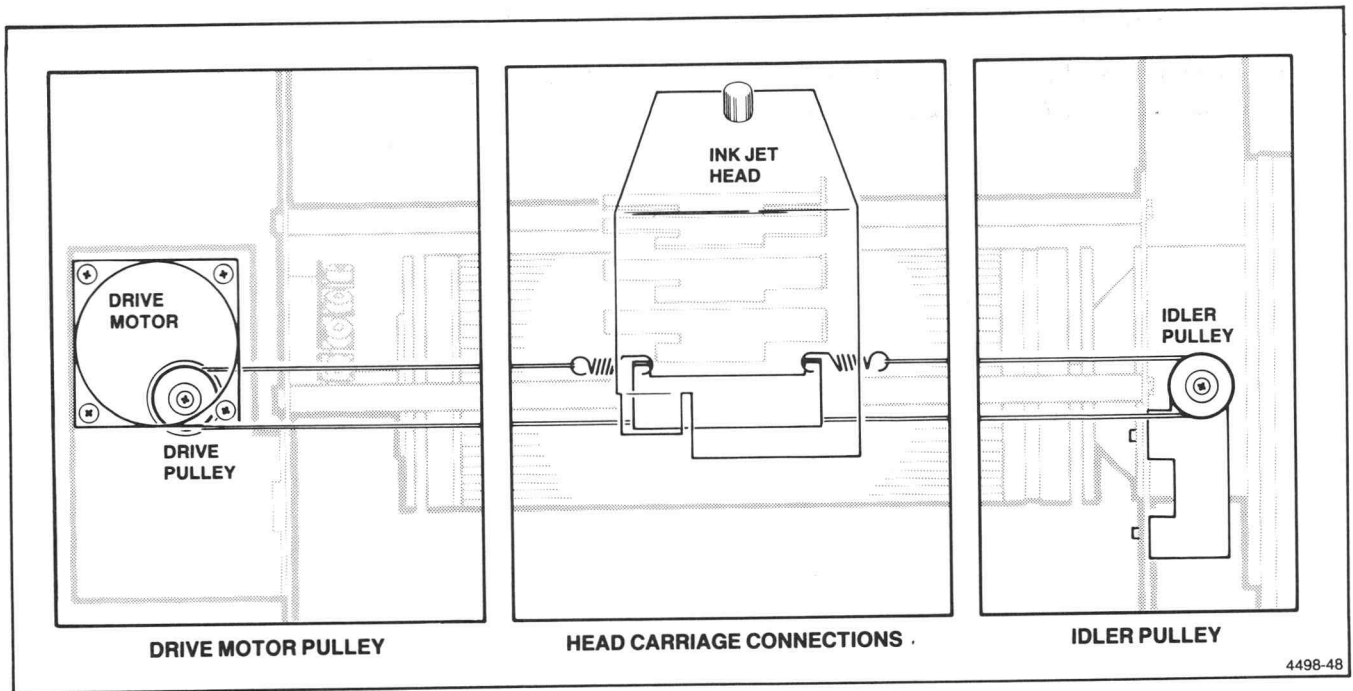

Figure 7-9b. Head Carriage Drive Cable Routing.
4. Note the routing of the drive cable. See Figure 7-9b.
2. Route the cable under the carriage and around the motor drive pulley and the idle pulley on the opposite end. See Figure 7-9b.